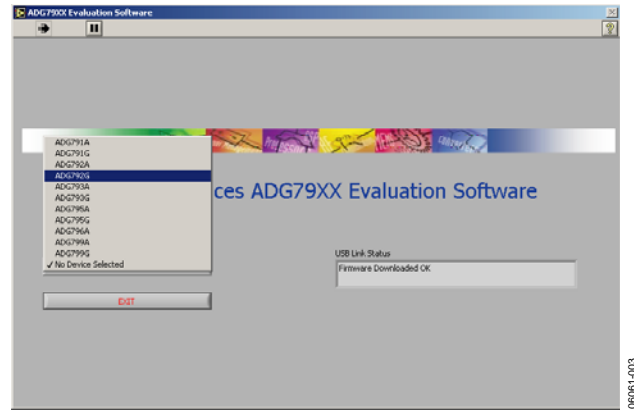

Figure 3. Device Selection List Menu
4. Use the **Device Selection List** menu, shown in Figure 3, to choose the software for ADG79XX device that is fitted onto the evaluation board. If the exact part number is not known, check the label on the evaluation board.